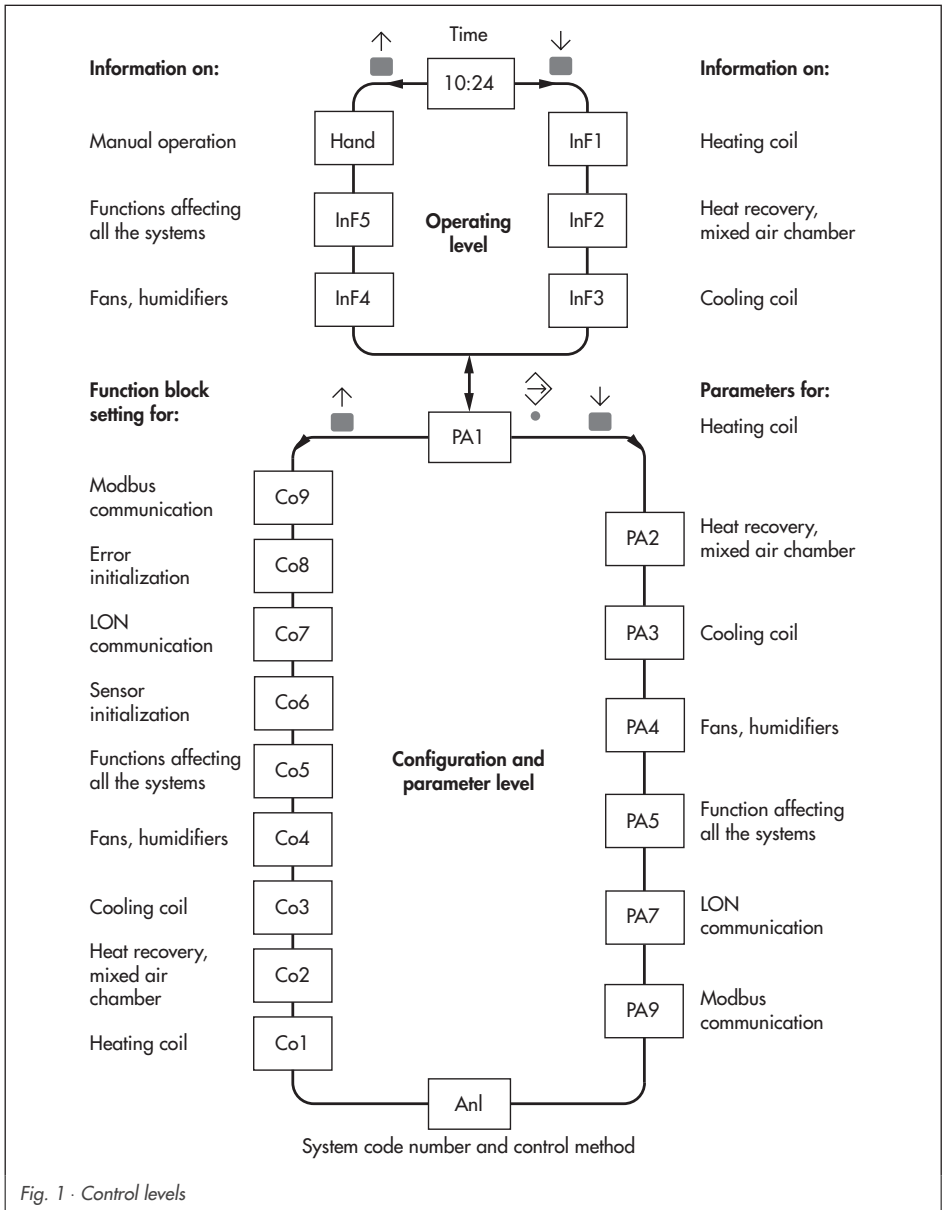

Fig. 1 - Control levels
Fig. 1 shows the level structure in the TROVIS 5177 Ventilation Controller. It also shows the operating steps that need to be taken to access each individual level. The controller contains two main levels: the operating level and the configuration level. Use the changeover key (C) to switch between the levels. The operating level contains the info levels, in addition to this, when switched to the manual mode, a manual level is also accessible. The configuration level contains the parameter levels, the system code number level and the configuration levels. The info, parameter and configuration levels are assigned to an index from 1 to 9 which is the same in all three levels. In this way, specifications concerning the heating coil are always termed InF1, PA1 und Co1 (index 1) according to the level. All other indices are summarized in the table opposite.
Usually, the ventilation controller is in the operating level and the time appears on the display. In Fig. 1, for example, "10:24" is indicated on the display. Apart from the time, symbols to represent the operating mode and operating status as well as the system represented symbolically appear on the display. Refer to page 147 for a summary of the major symbols.